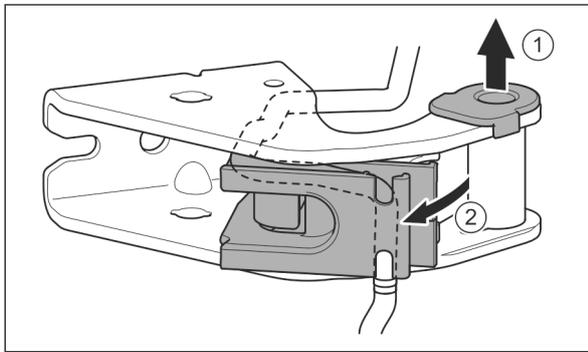

Fig. 24
- ▶ Pull the bearing bush out of the guide. Fig. 24 (1)
- ▶ Swing the cable holder out. Fig. 24 (2)